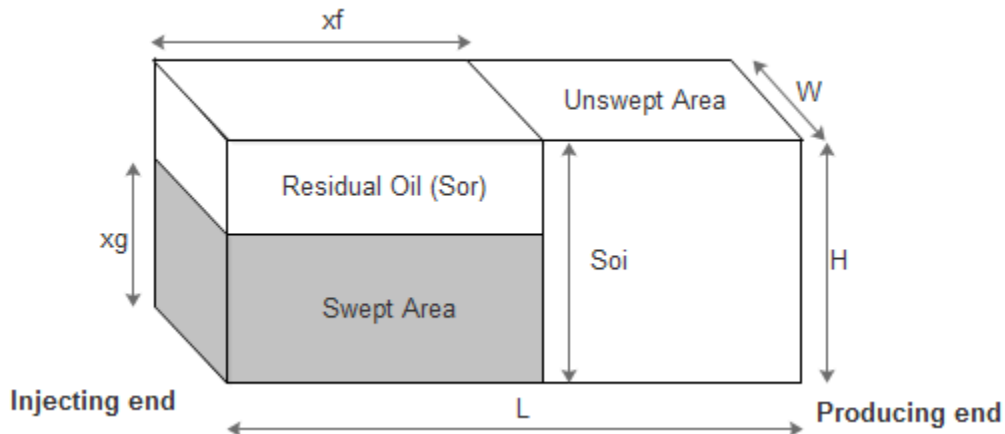

Figure 1
- d) **Figure 1** shows an oil reservoir which has undergone waterflooding. Core analysis tests indicate that the initial and residual oil saturations are 70 and 25%, respectively. Given that $L = 2000$ ft, $H = 400$ ft, $W = 300$ ft, $x_f = 1100$ ft and $x_g = 210$ ft. Calculate the recovery factor. **(4 Marks)**